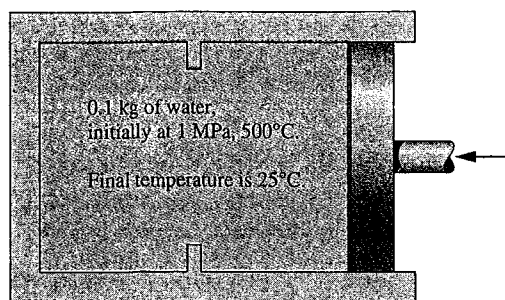

Fig. P3.75
3.75 As shown in Fig. P3.75, a piston-cylinder assembly fitted with stops contains 0.1 kg of water, initially at 1 MPa, 500°C. The water undergoes two processes in series: